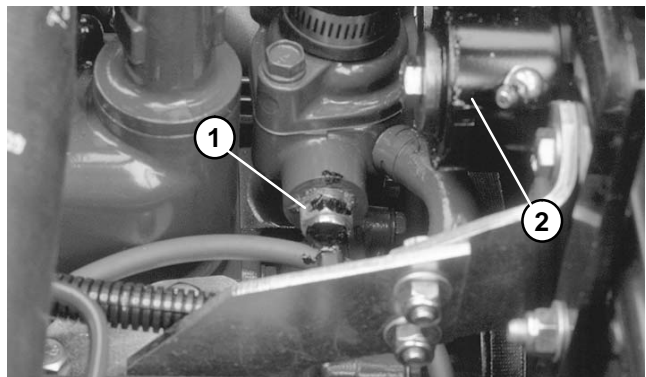
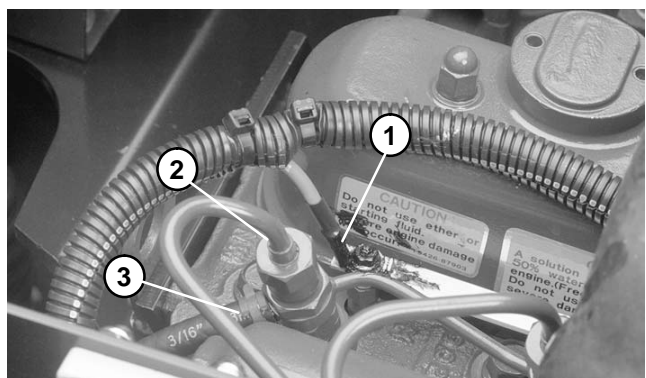

Figure 29
Figure 30
- C. High temperature shutdown switch (Fig. 29). Glow plug bus (Fig. 30).
8. Disconnect fuel hose from the rear injector nozzle (Fig. 30).
8. Connect fuel hose to the rear injector nozzle (Fig. 30).
- A. Glow plug bus (Fig. 30). High temperature shut-down switch (Fig. 29).